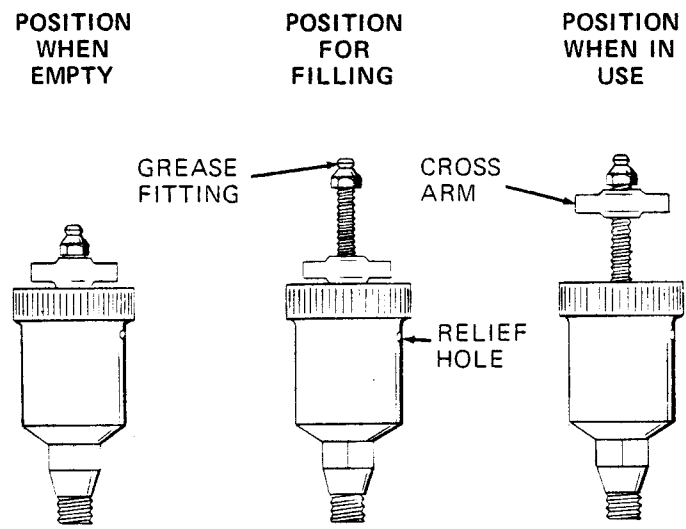

Figure 3. Automatic Lubricating Grease Cup
Before removing the seal assembly, turn the cross arm on the seal grease cup (4) clockwise until it rests against the cover (see figure 3). This will prevent the grease in the cup from escaping after the seal is removed.
Before starting the pump, fill the grease cup through the grease fitting with a good grade of No. 2 pressure gun grease until grease escapes from the relief hole. Turn the grease cup arm counterclockwise until it is at the top of the stem; this will release the spring to apply grease to the seal (see figure 3).